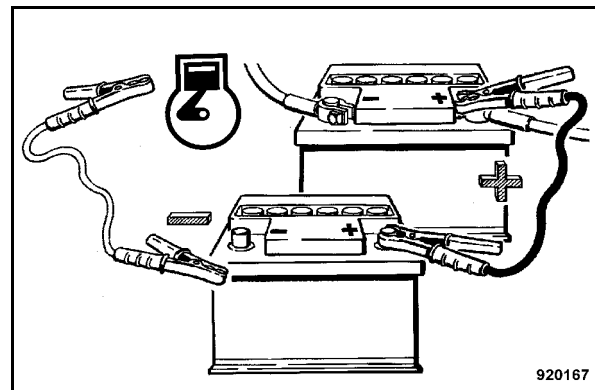

Fig. 53
- Then connect the ground cable first to the minus pole of the current supplying auxiliary battery and then to engine or chassis ground, as far away from the battery as possible (Fig. 53).